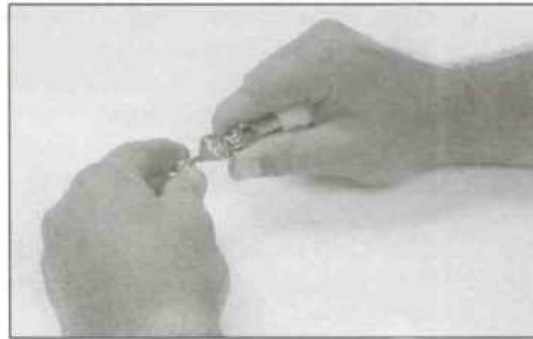

FIG 6-11
6. Examine both sides of the washer (16) noting that one surface is slightly rounded and smooth at the edge, and the other has a slightly upturned lip around the outer circumference. Place the washer over the poppet shaft with the smooth side facing up, allowing it to drop inside the flange of the inlet tube (15).
7. Position the flow port of the inlet tube (15) facing straight up. Place the spacer (18) onto the poppet shaft, and thread the locking nut (19) until resistance is felt. Position the forks of the demand lever (17) over the poppet shaft so the demand lever arm is facing up. Refer to figure 6-11 as you relax the poppet, ensuring that the demand lever arm stands upright. Note the position of the flow port in the inlet tube and the demand lever.